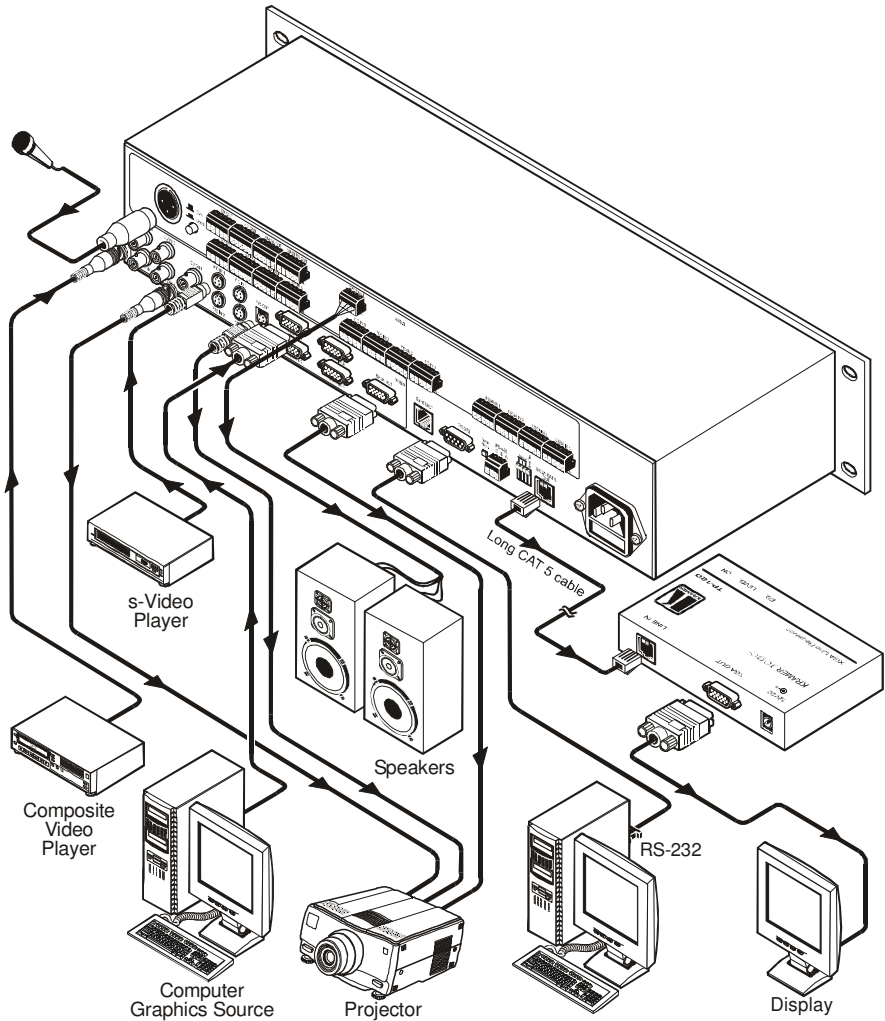

Figure 4: Connecting the VP-23N Presentation Switcher
In Figure 4, the audio connections are not shown, except for the microphone and speakers connections.
To connect² the **VP-23N**, as illustrated in Figure 4, do the following³:
3. Connect the appropriate balanced audio sources and acceptors (not shown in Figure 4).
4. Connect the MASTER OUT terminal block connector, if required (not shown in Figure 4; see section 7.3).